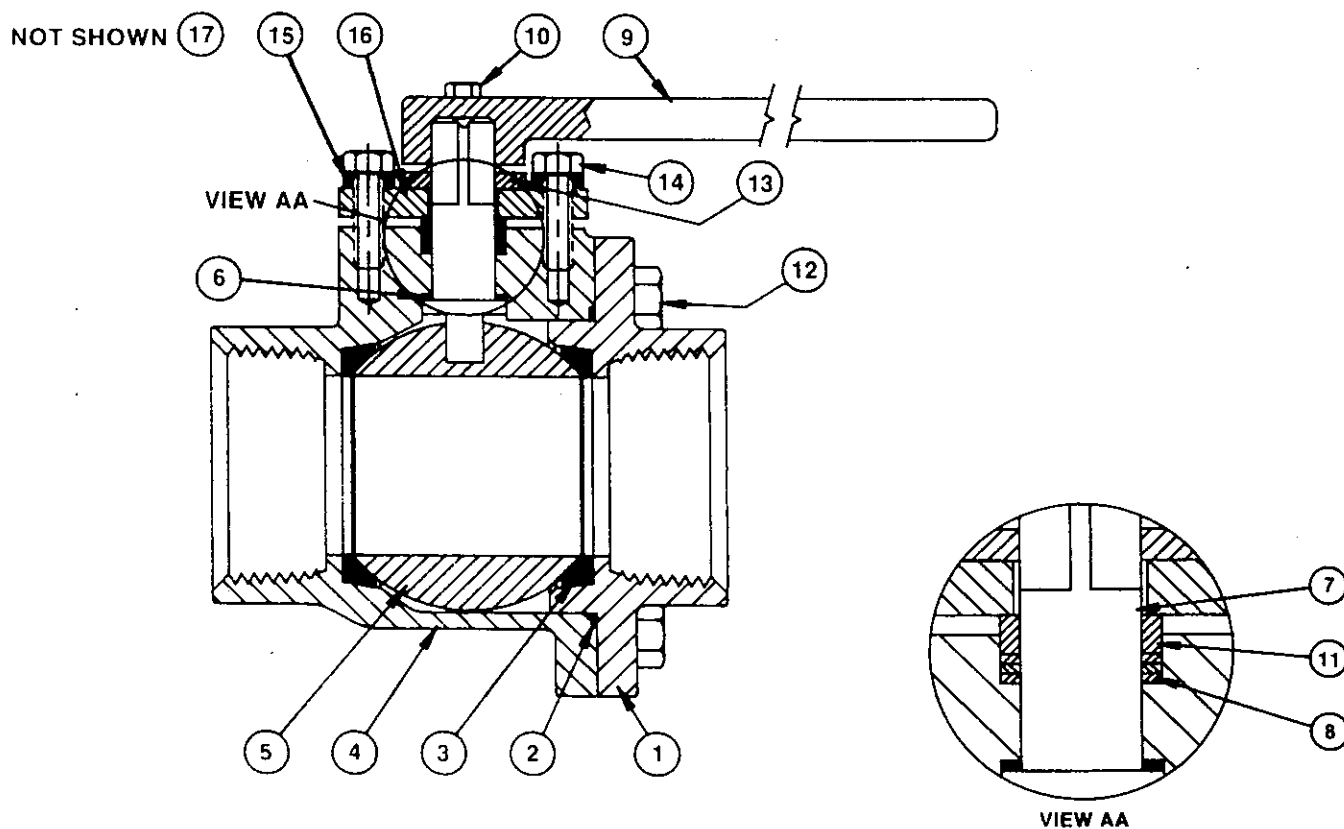

FIGURE 1
A. Remove lever of tee handle, not shown in FIGURE 1 (optional equipment).
B. Loosen "allen" type set screw (17) in stop plate (13) and lift off stop plate.
C. Completely unscrew both 5/8" gland bolts (14) and remove stop washers (15) and gland flange (16).
D. Remove stem (7) by following steps 4A through 4D under "Seat and Seal Replacement". At this point, push down on stem (7) and remove it from body (4).
E. Remove thrust washer (6) from stem (7) and remove stem packing (8) and gland (11) from stuffing box.